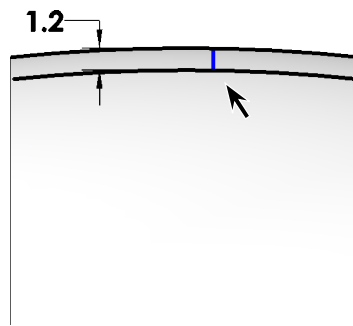

Fig. 17
Step 9. Sketch vertical line between arcs to close contour, **Fig. 17**.